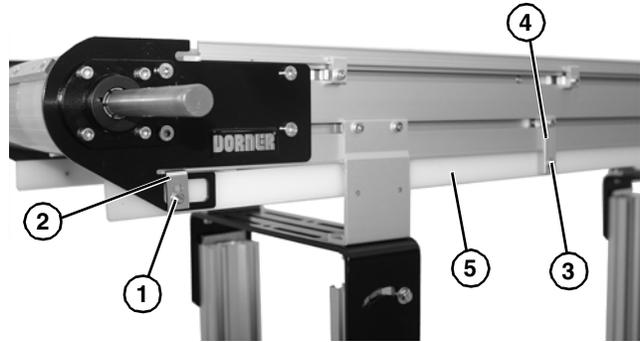
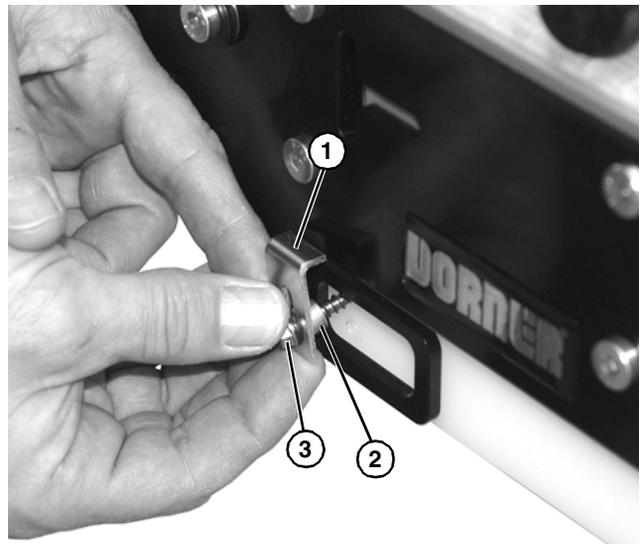

Figure 48
Figure 49
2. Remove screw (Figure 48, item 1), clip (Figure 48, item 2), and spacer.
3. Remove screw(s) (Figure 48, item 3) from each retaining clip (Figure 48, item 4), and remove lower wear strip (Figure 48, item 5).
5. Install new wear strip (Figure 48, item 5) and secure with retaining clips (Figure 48, item 4).
6. Install sag guard plate (Figure 49, item 1) with spacer (Figure 49, item 2) and screw (Figure 49, item 3).
7. Adjust wear strip up or down as needed on slotted holes in sag guard plate (Figure 49, item 1) and retaining clip (Figure 48, item 4), and secure with screws (Figure 49, item 3).